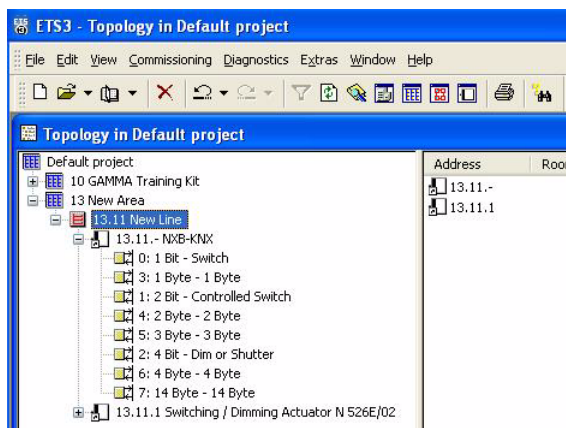

FIG. 26 ETS3 - Topology in Default Project indicating *NXB-KNX*
4. The *NXB-KNX Virtual Device* is indicated in the appropriate line (FIG. 26):